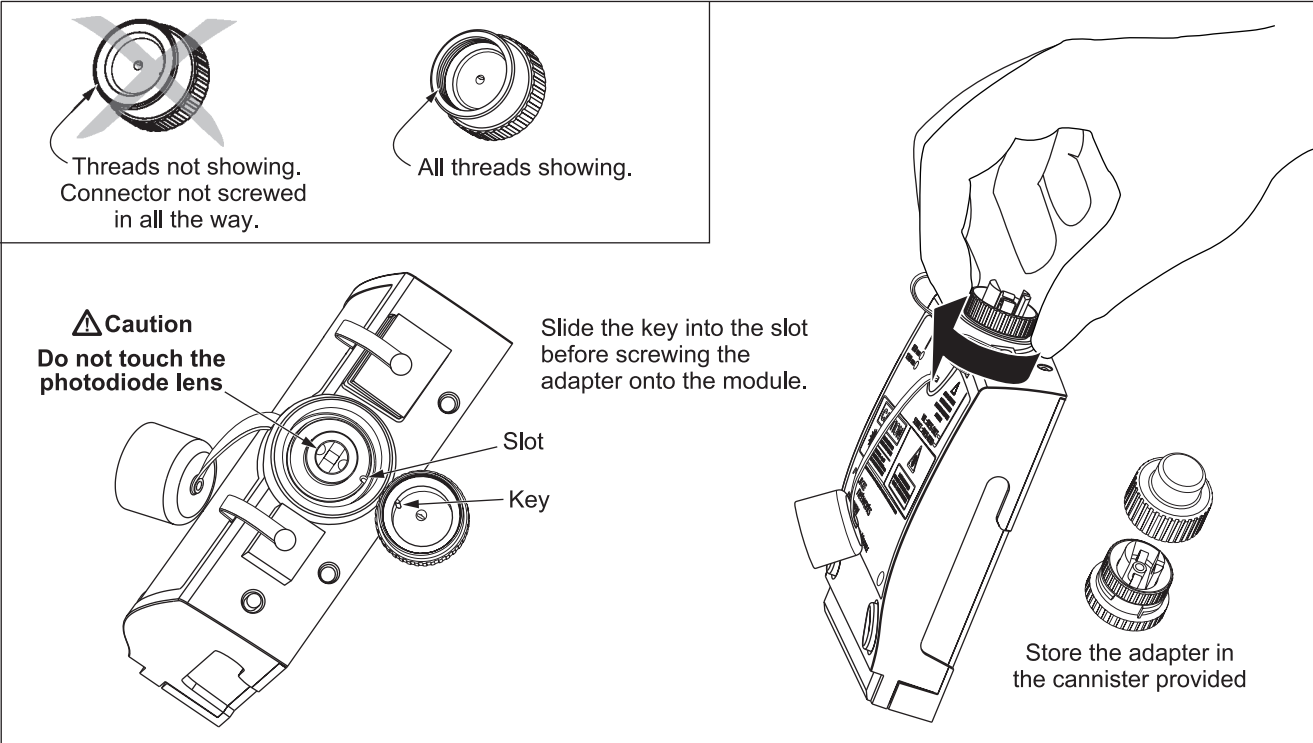

Figure 4. Installing the Connector Adapter
- Do not touch the photodiode lens (see Figure 4).
To install a connector adapter, refer to Figure 4 and do the following:
- 1 Remove the connector adapter to expose the photodiode lens (see Figure 4).